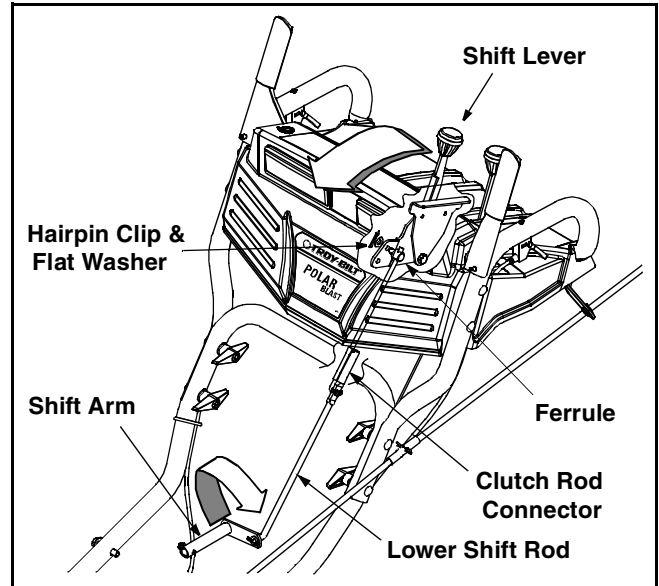

Figure 11
- Place shift lever in sixth (6) position (fastest forward speed).
- Rotate the ferrule up or down on the shift rod as necessary until the ferrule lines up with the upper hole in the shift lever. See Figure 11.